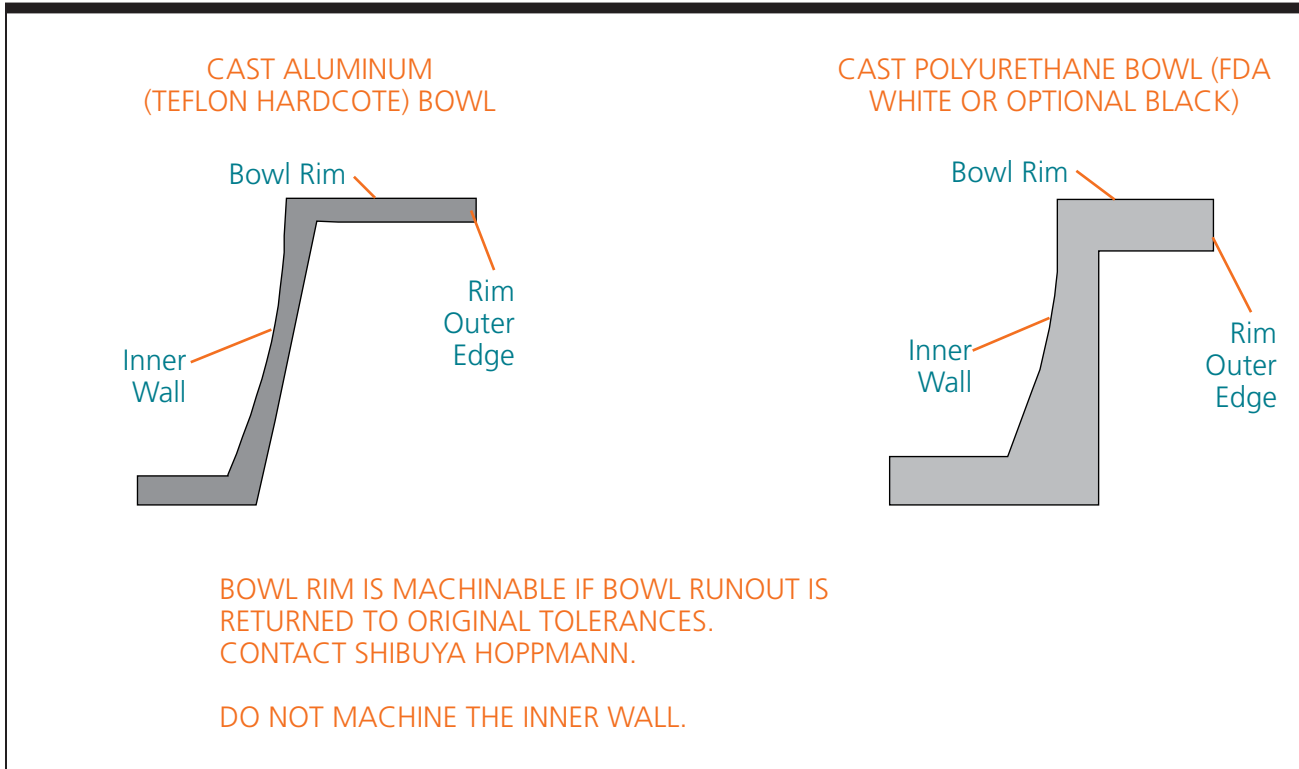

Figure 5-1. Machinable Bowl Surfaces
- The inner wall of the bowl should not be machined because the slightly enlarged gap between the disc and the inner wall of the bowl may pinch or snap product. If the inner wall of the bowl is damaged in a way that interferes with orientation, you must replace the bowl. (Refer to Figure 5-1 on the following page for machinable bowl surfaces).